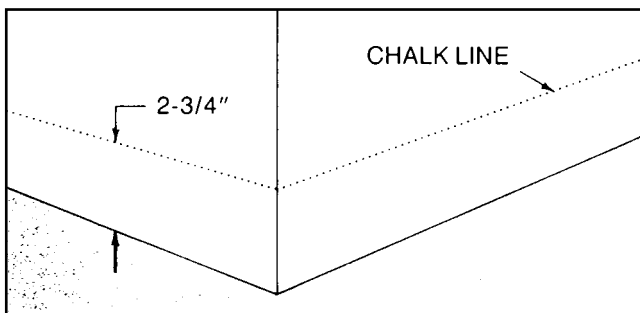

Fig 5.1
**1. CHALK LINE** It is best to establish a level chalk line in relation to the eaves or the tops and bottoms of doors and windows. First, find the lowest corner on the building area to be sided where a level line can be drawn (uninterrupted) around the perimeter. Measure up 2 3/4" and snap a level chalk line around the house (Fig. 5.1).